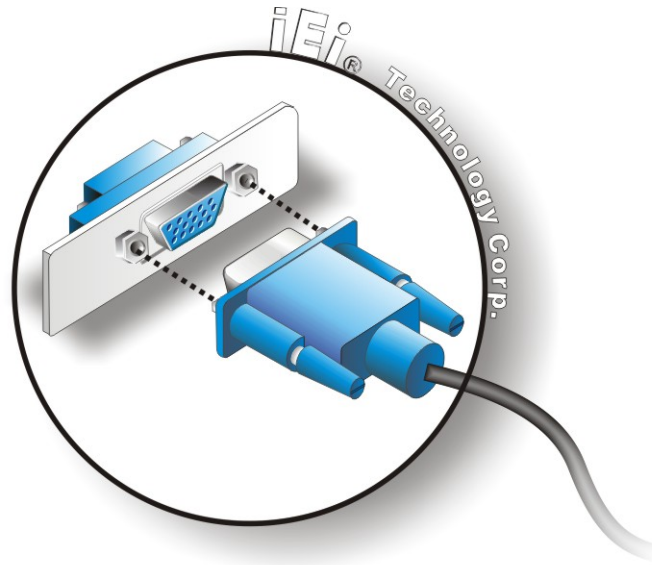

Figure 5-20: VGA Connector
Step 3: Insert the VGA connector Once the connectors are properly aligned with the insert the male connector from the VGA screen into the female connector on the PCIE-Q350. See **Figure 5-20**.